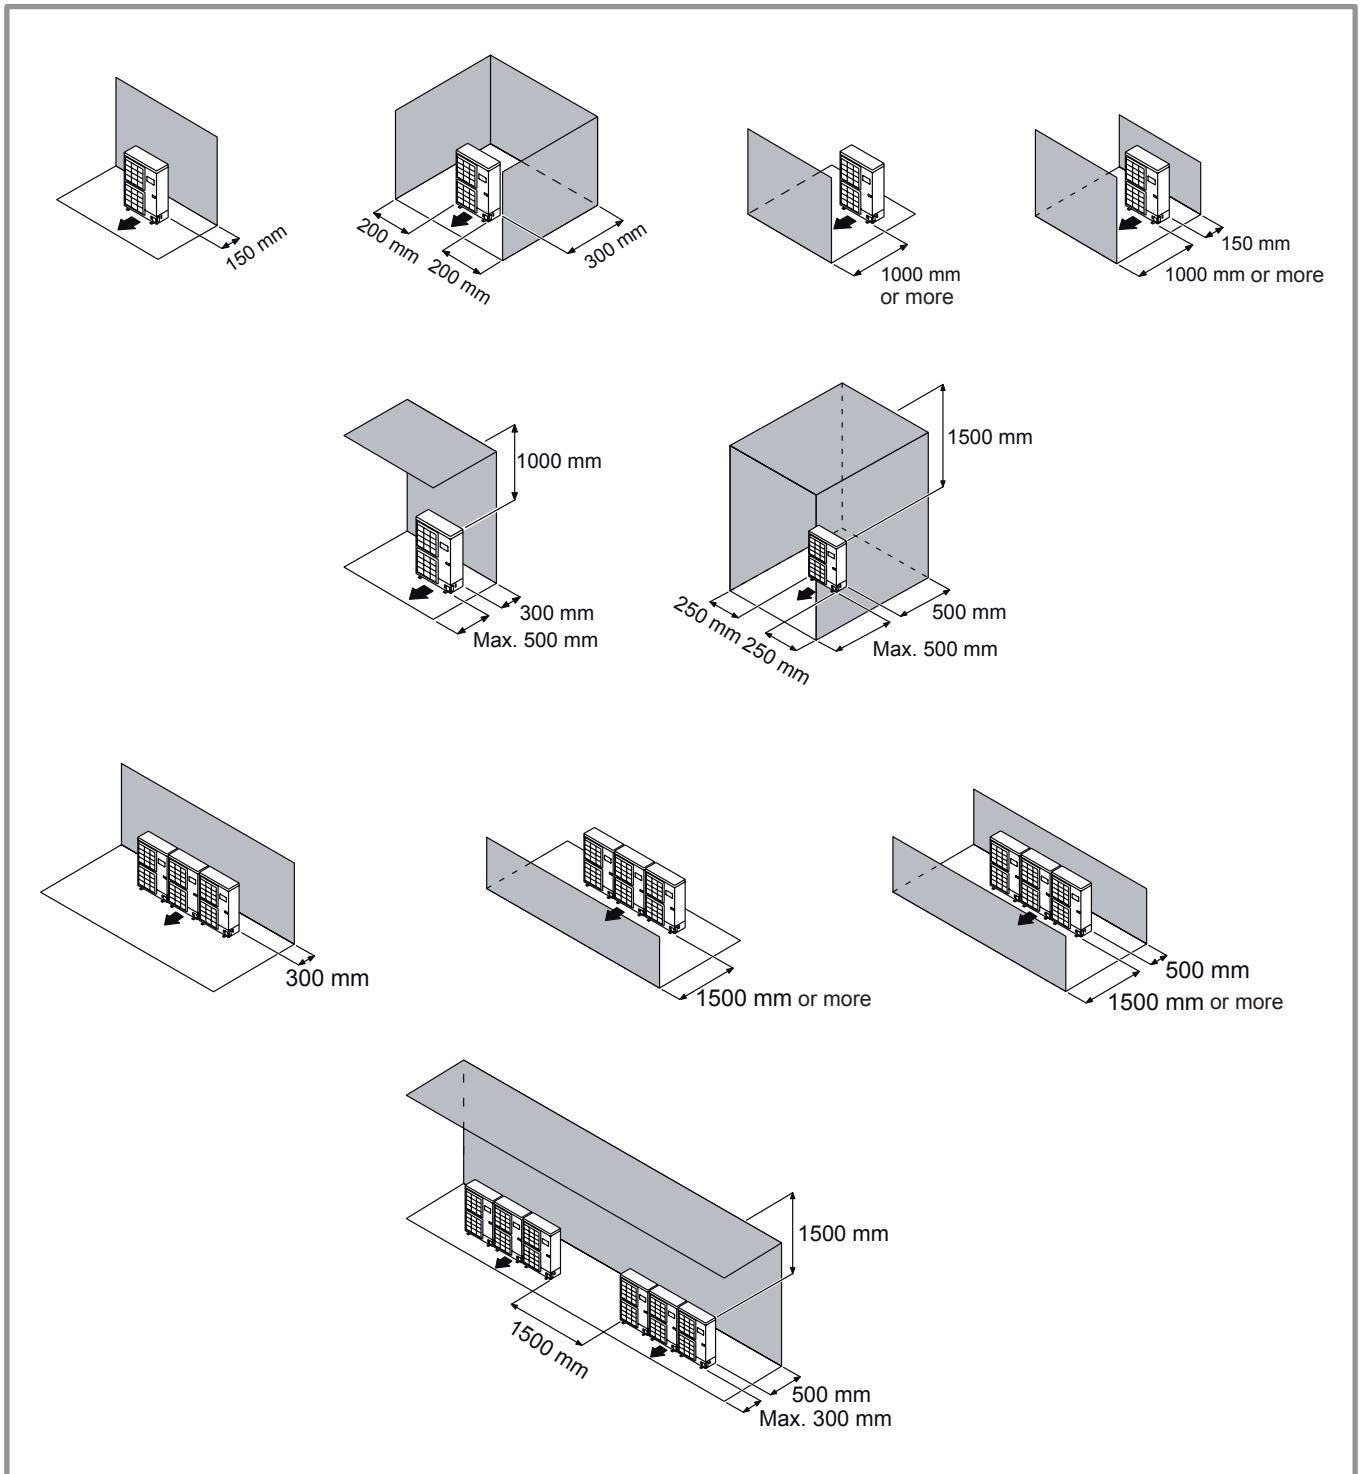

Figure 11 - Minimum installation clearances around outdoor unit
- ☞ **The outdoor unit must only be installed outside (outdoors). If a shelter is required, it must have broad openings on the 4 walls and observe the installation clearances (figure 11).**